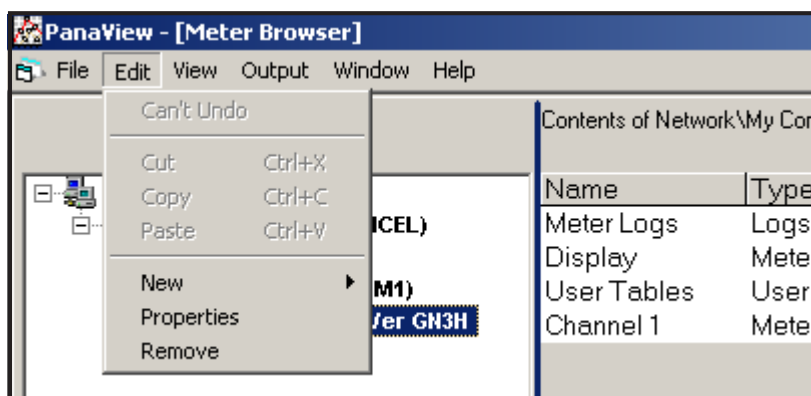

Figure 26: The *Properties* Option in the *Edit* Menu
2. Open the *Edit* menu and select the *Properties* option, as shown in Figure 26.